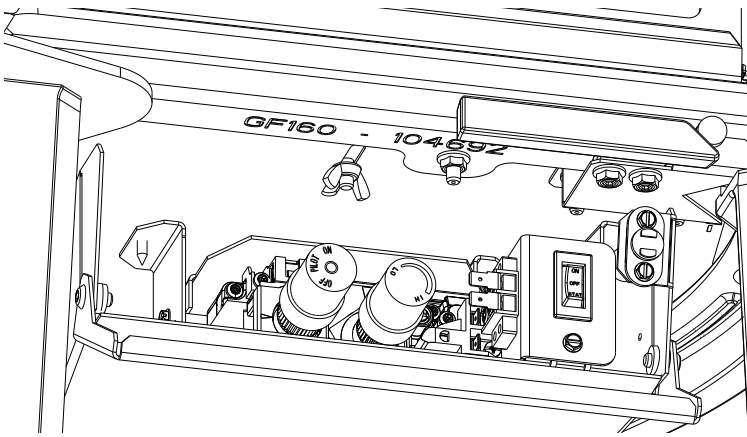

Figure 7.1.
3. Open the Controls compartment under the firebox. Loosen the Air Shutter wing nut located below the firebox floor and push the stem back far as it will travel. See fig. 7.1.